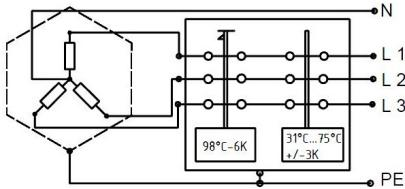
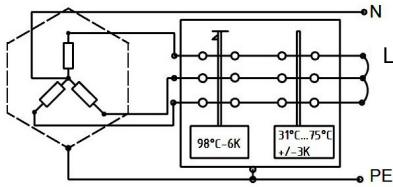

Figure 1: A three-phase 400 V connection (as delivered).
Figure 2: A 230 V single phase connection (max. 3 kW)
10. Establish an electrical connection (see circuit diagrams found in Figures 1 and 2) and watch for the right voltage. The entire wiring must be checked against the circuit diagram before switching on the appliance for the first time.
11. The screw-in heating elements are by default switched three-phase in star to the connection at 400 V and designed for direct control (Figure 1) The star point may not be earthed. For power ratings up to 3 kW, a mono-phase connection with direct control for 230 Volts is also possible; however, the heating element must be connected as per Figure 2. The terminal screw provided at the star point is intended for this purpose. This may only be performed by a qualified electrician.